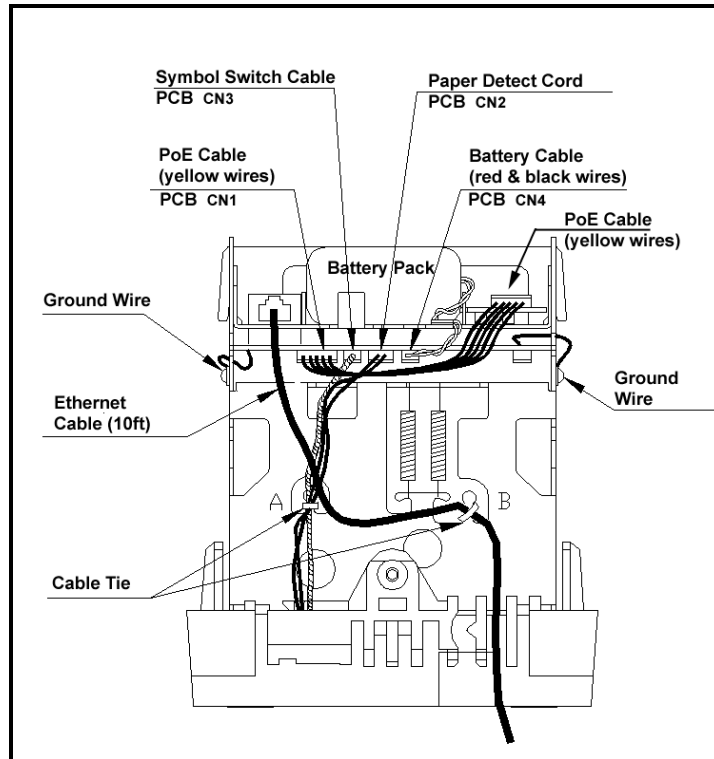

Figure 2-13. Rear View Showing PoE & FPR Cables/Connections.
- Step 12. Plug in the FPR battery pack cable (the connector with the black and red wires) into the small open connector (see *Figure 2-13*) located just under the battery pack on the PCB. Next, plug in the PoE connector to the left of the FPR connector for the PoE cable (yellow wires). It is keyed and can only fit into the connector one way. The connection for the PoE cable has a 5-pin connector on the main PCB and a 5-pin connector at the PoE PCB. Both connector ends are keyed (can only fit in one way). You may have to temporarily remove the connector on the PoE PCB to install the top plate.